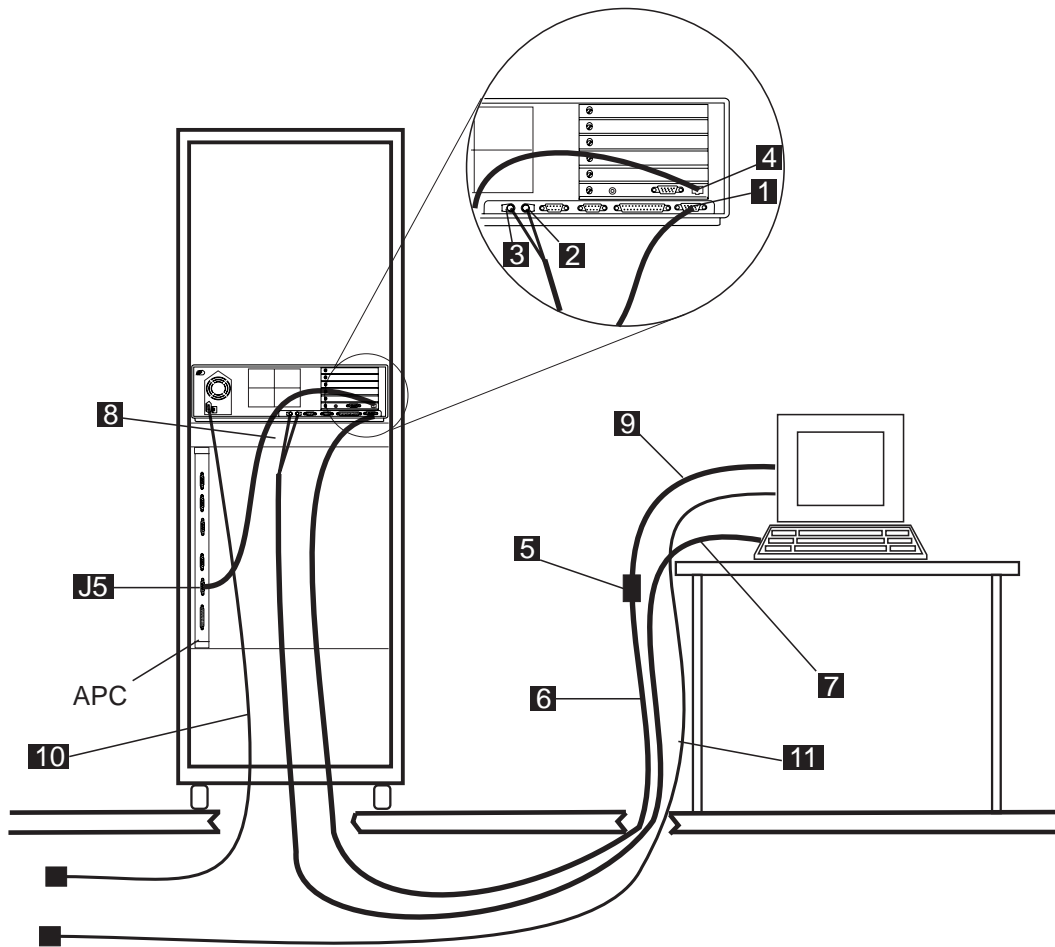

Figure 1-2. NAS, Cables Installation
5. ____ Connect the cables from the NAS to the display and keyboard as follows (refer to Figure 1-2 on page 1-3):